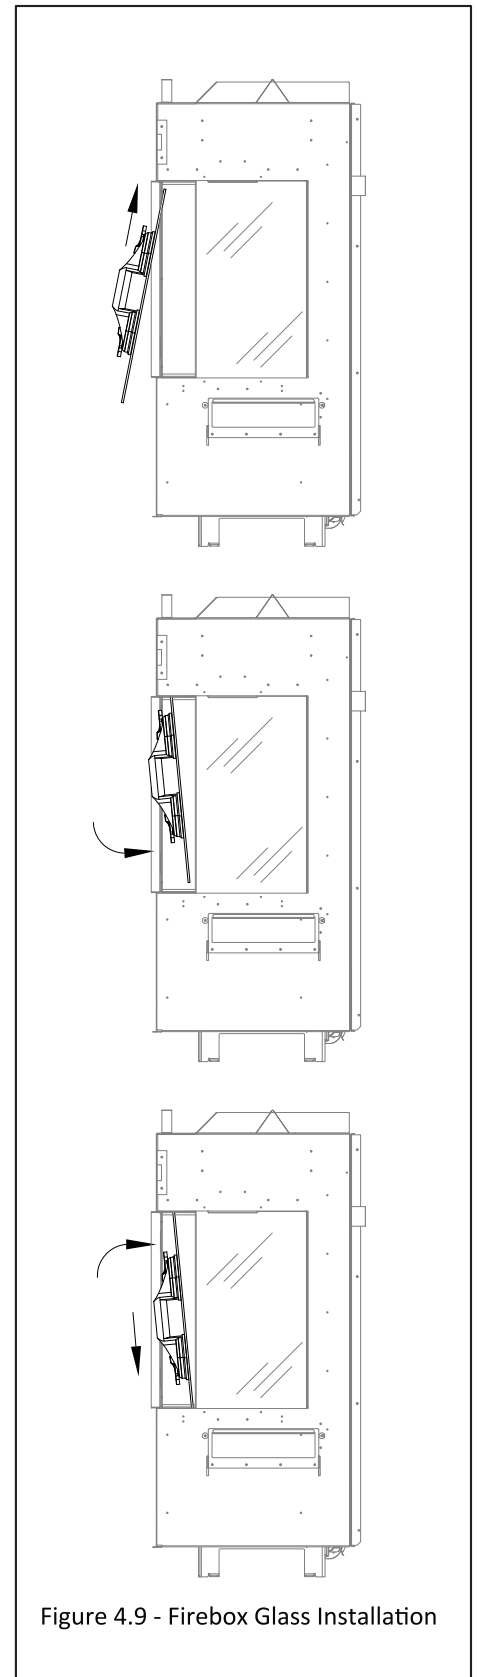

Figure 4.9 - Firebox Glass Installation
2. Install the front piece of glass. When installing the front piece of glass you may find it helpful to start with the bottom glass brackets installed but left loose. As you lift the glass into place (See Figure 4.9) start with the glass slightly offset to the side of the firebox that does not have the side glass installed yet. You are able to slide the front glass sideways into the silicone sealing strip of previously installed side firebox glass.